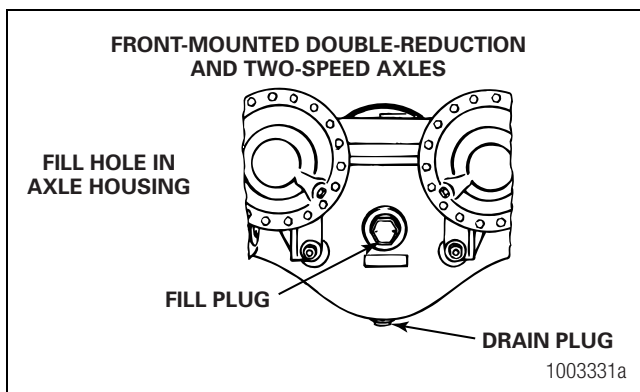

Figure 8.17
3. If the drive pin angle is more than 7 degrees, use the fill plug in the axle housing bowl. Figure 8.13 through Figure 8.17.
2. Clean the area around the fill plug. Remove the fill plug from the differential carrier or the axle housing bowl, depending on the axle. Do not remove the temperature indicator plug. Figure 8.11 through Figure 8.17.